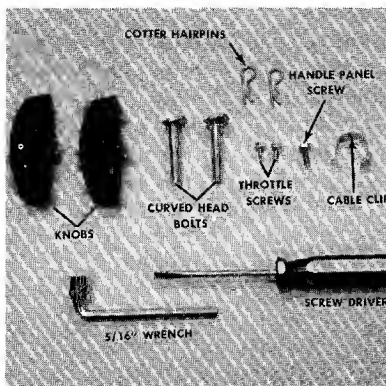

FIGURE 1.
1. Remove the loose hardware from the assembly pack. You will need a screwdriver and a 5/16" wrench, either a socket as shown in figure 1 or an open end wrench.